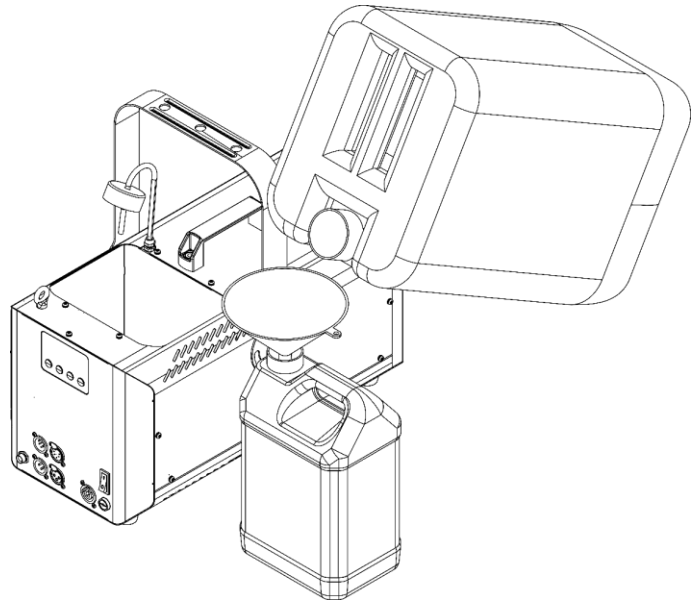

Fig. 11
- 05) Use a funnel to pour the snow fluid into the tank, as shown in Fig. 11.